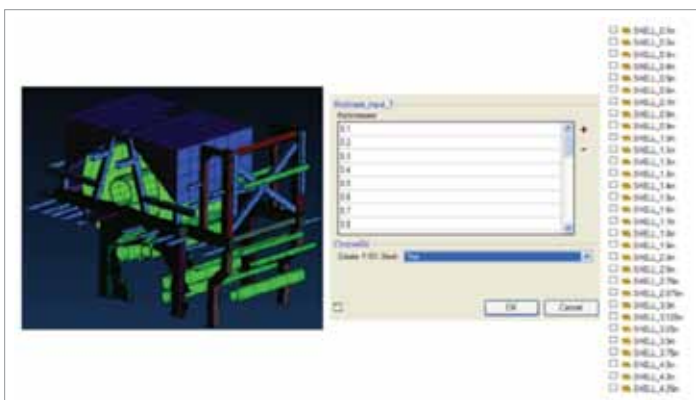

Figure 1 A typical large machinery model with thirty (30) different 2D properties.
Figure 1 shows a typical model that requires thirty (30) different properties. A CVS input file of the different thicknesses is used and the shell properties are created automatically with the corresponding material and in the right unit system.